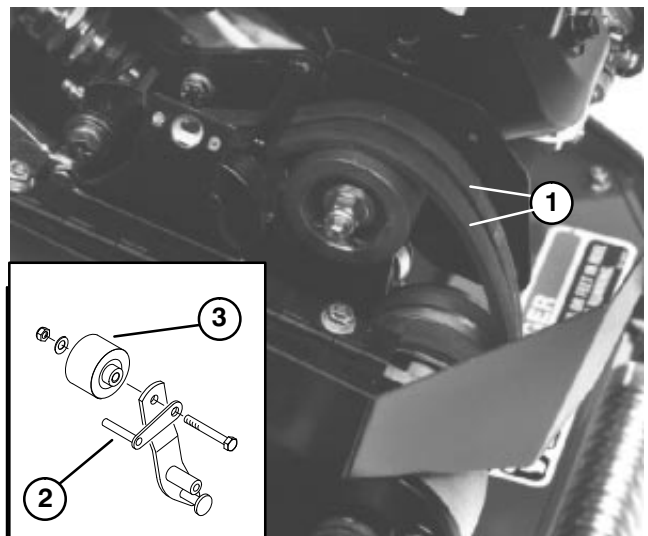

Figure 36
7. To push or pull machine easier without starting the engine, adjust the belt guide (Fig. 36, inset) as follows: